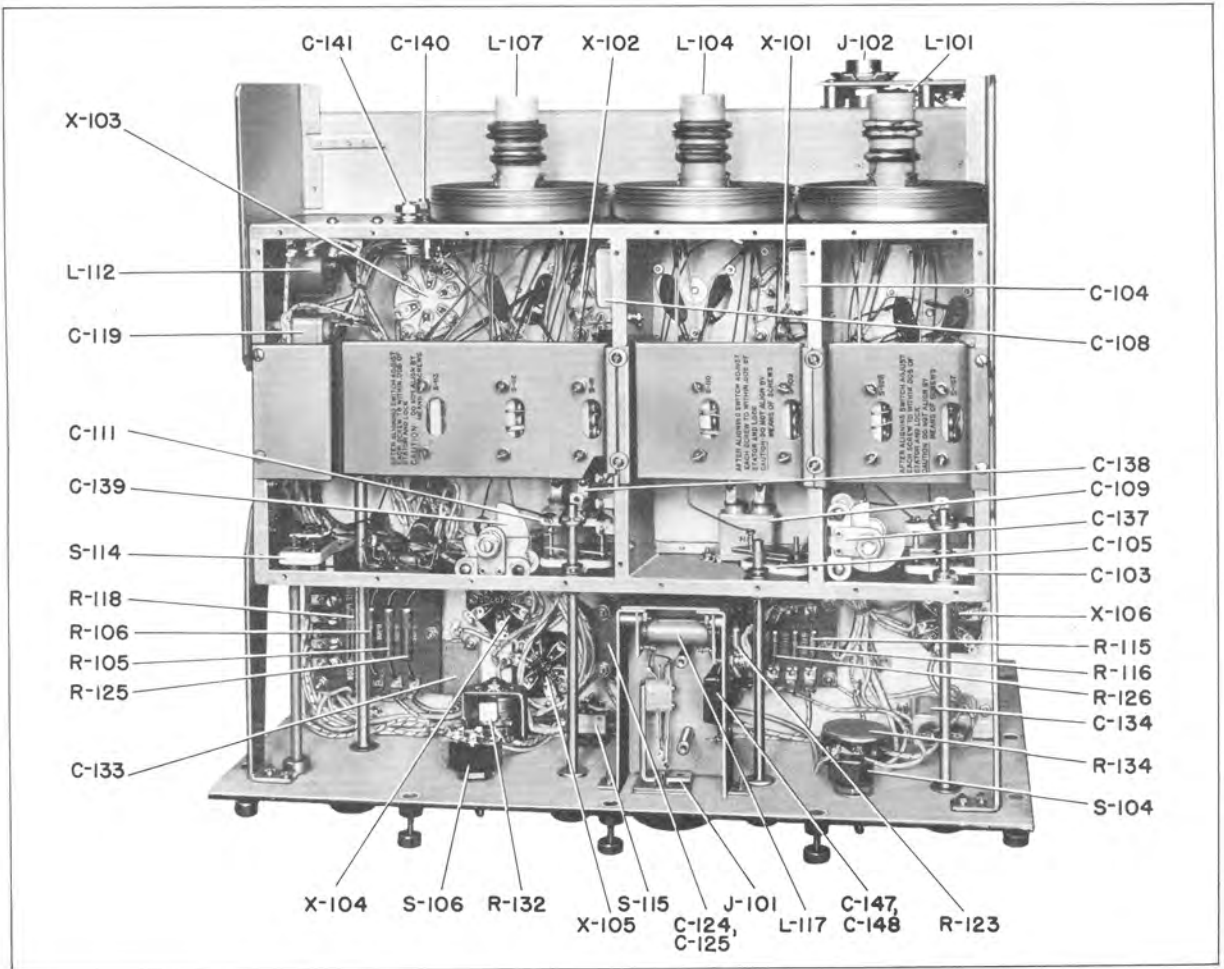

Figure 6—Receiver Unit CMX-46156-A (Bottom View of Chassis—Covers Removed)
- 9.4-8 Normally, the a-c power is controlled either from the control unit or the power unit. In addition, a d-c power "On-Off" switch is provided on the receiver panel for use only in the event the receiver in an emergency is operated on batteries. *If this switch is opened when the receiver is normally operated on a.c., the load is removed from the power unit and overloading and damage of certain of its parts may result.* For this reason, shorting links are provided behind the panel (see Figure 6) which permanently close this switch circuit. If it is desired in an emergency to operate the receiver on batteries, these links should be opened.
- 9.7-2 A filter assembly connected to the output jack J101 and consisting of coils L117A and L117B and by-pass capacitors C147 and C148 eliminates signal pick-up on the phone leads. The shield around the phone jack prevents direct radiation from the jack itself. See Figure 6.
- 10.1-19 "DC POWER OFF-ON" Switch: This switch is not used in the normal operation of this equipment and is accordingly wired out of the circuit by short-circuiting links located under the chassis (see Figure 6).
- NOTE:** HOWEVER, SHOULD OCCASION ARISE, THIS EQUIPMENT MAY BE OPERATED FROM A BATTERY SUPPLY CONSISTING OF SUITABLE FILAMENT AND PLATE BATTERIES. THIS METHOD OF OPERATION WILL REQUIRE OPENING OF THE SHORT CIRCUITING LINKS (SEE FIGURES 6 AND 20), AND CONNECTION OF CABLE W-201 AS INDICATED BY THE DOTTED LINES IN FIGURE 16. OPERATION OF THE RECEIVER WILL THEN BE CONTROLLED BY THE "DC POWER" SWITCH ON THE FRONT PANEL.